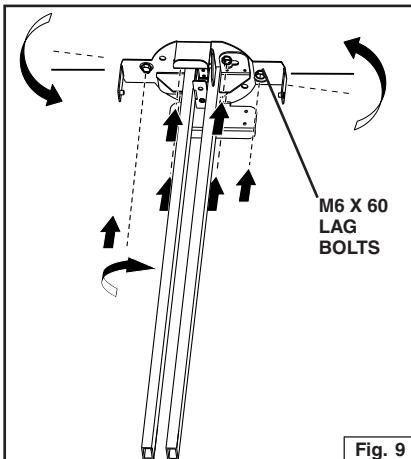

Fig. 9
3. Attach the remaining four (4) M6 x 60 lag bolts per arm. Fig. 9.